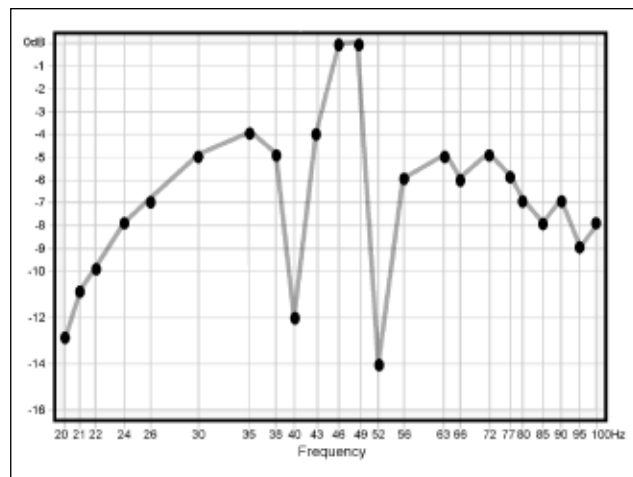

Figure 19. Example of two narrow dips
1. Select a new test position: Cue the test track corresponding to the center frequency of the dip. In the example in Figure 19 you would play Tracks 14 (52Hz) and 18 (40Hz). Press **Play** ►. You will see a reading very close to what you had before. Now, slowly move the RSLM around the area, if possible remaining within about a foot of the original test point. As you move the RSLM, watch the bar graph. You will observe large level fluctuations. Find a location for the subwoofer or a test location that raises the response at these frequencies. You may find it helpful to move the RSLM vertically. Dips can be oriented in any axis. The position that restores the level to about that of the adjacent test points is your new test position.